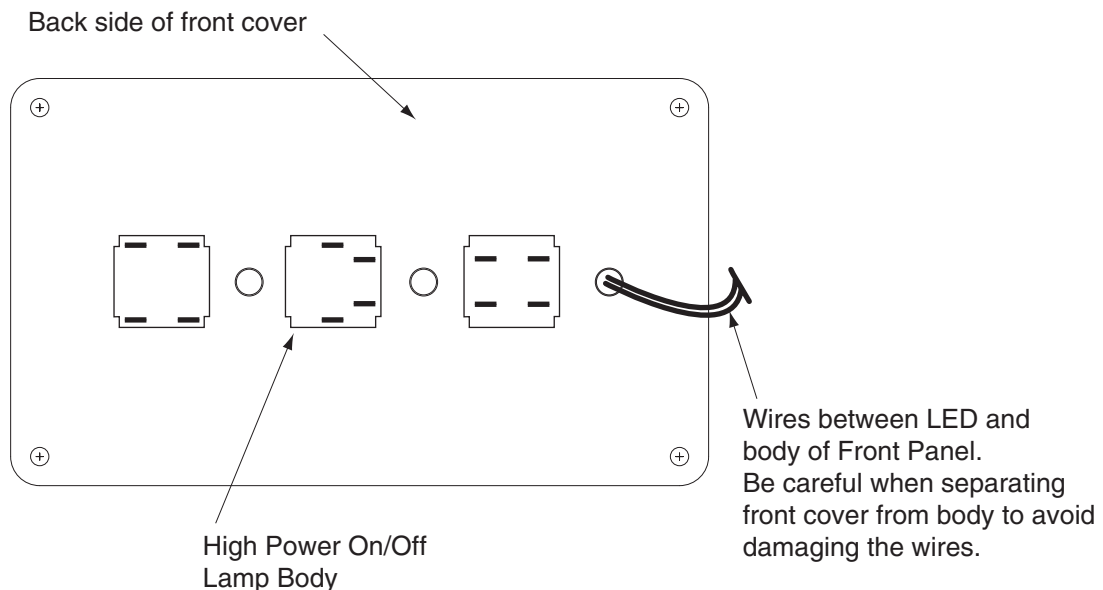

Figure 8-8. Lamp Body Contact Alignment
8. Replace the lamp body by pushing it straight into the lamp housing receptacle. Make sure the contacts on the lamp body are properly oriented. See Figure 8-8 on page 157.